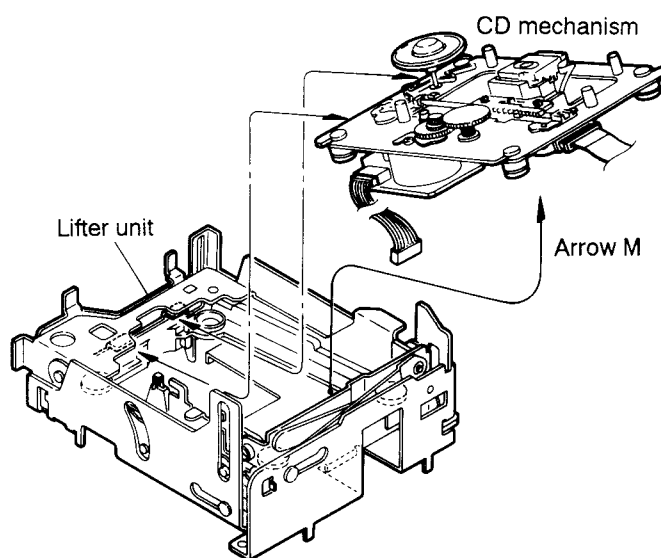

Fig. 5-26
2. By raising the CD mechanism assembly in the arrow direction (M), remove the assembly from the lifter unit (Fig. 5-26).